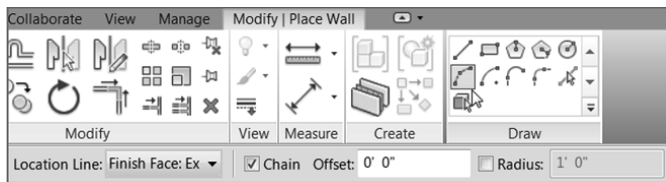

FIGURE 2.9: Draw a radial wall using the Start-End-Radius Arc method.
18. On the Modify | Place Wall panel, click the Start-End-Radius Arc button, as shown in Figure 2.9.